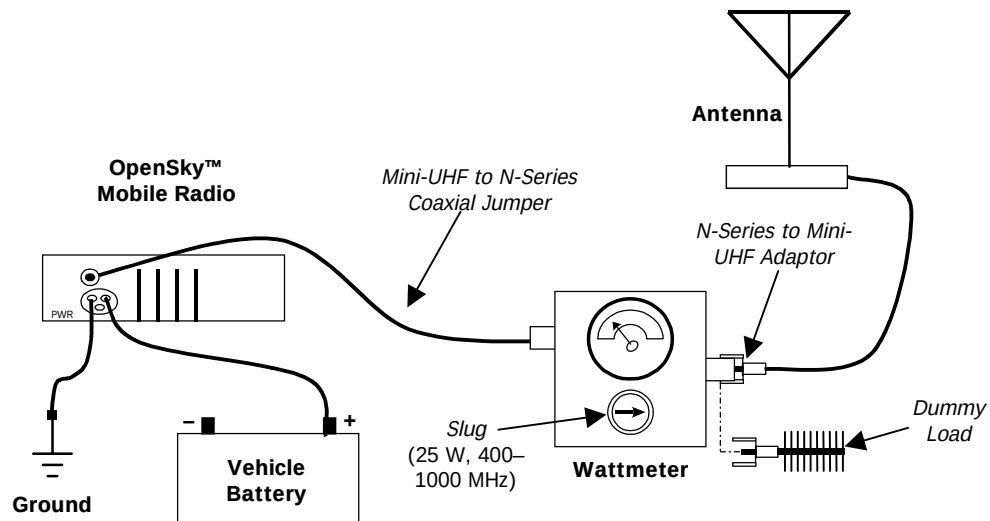

Figure 2—Wattmeter Connection
- Connect the wattmeter to the radio for testing according to **Figure 2**, using the dummy load in place of the antenna.
The dummy load connects to the output side of the wattmeter, in place of the antenna cable (see **Figure 2**).
1. Connect the wattmeter to the radio and antenna for testing according to Figure 2 .	Remove the dummy load, if necessary, and connect the antenna lead to the output side of the wattmeter (see Figure 2).